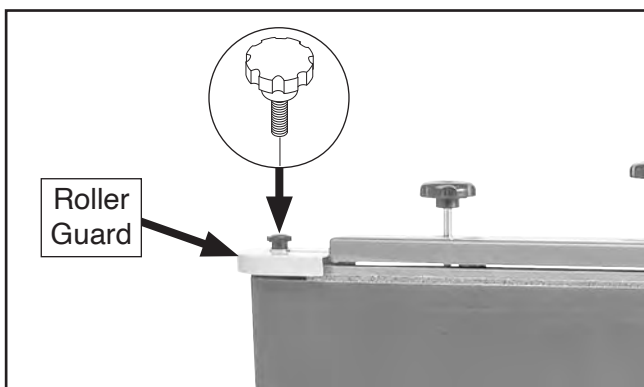

Figure 59. Location of roller guard and knob.
3. Loosen knob shown in **Figure 59** to remove roller guard.